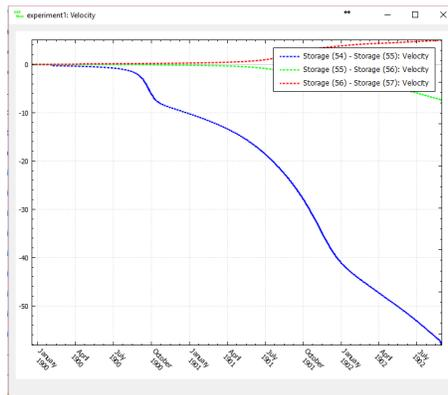

Figure 4.5: Darcy flux in select blocks
- Right-click on connectors of your choice and select **Velocity** from the drop-down menu. Figure 4.5 shows the flow rate in connectors